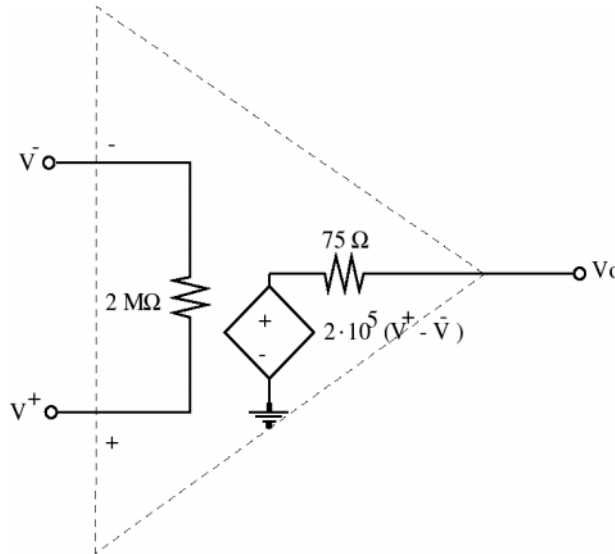

Figure 2: PSpice model for the 741 op-amp
Simulate the circuit you built and tested in Section 6.3 using PSpice and the op-amp model shown in Figure 2. Use a 1 volt peak-to-peak, 10 kHz sine wave as  $v_s$ . Include the PSpice output in your lab report. Compare the theoretical voltage gain, the voltage gain resulting from your PSpice simulation, and the voltage gain measured in lab.
**Note:** The input resistance of the op-amp model of Figure 2 is 2 MΩ. The PSpice designator for  $10^6$  is **MEG** not **M!** PSpice is not case sensitive and therefore takes **M** as **m** which designates  $10^{-3}$  not  $10^6$ .